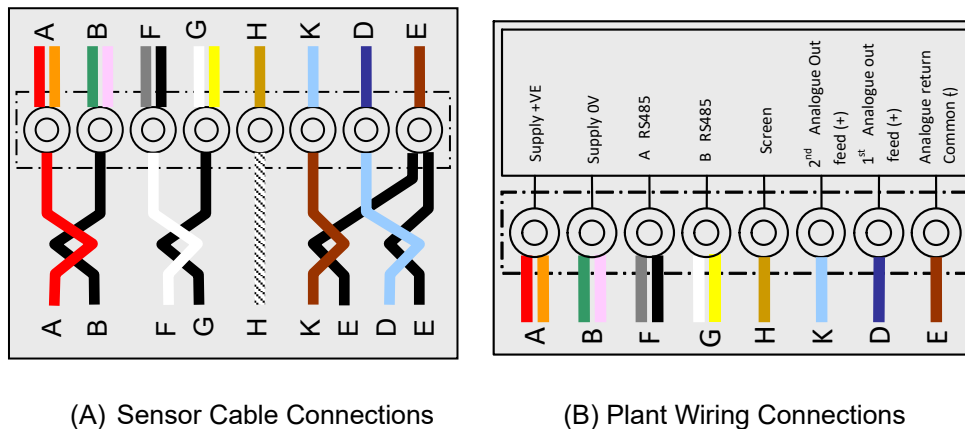

Figure 10: Wiring Diagram
- Connect to the terminals as per the diagram in the Rotating Connector (see Figure 10).
- Feed the installation cabling through the housing cable gland and cut to length. Wire the installation cable to the fixed terminal block as per the diagram in the lid (see Figure 10). Connect the removable terminal block plug from the slip ring sub-assembly.
- Feed the plant cabling through the housing cable gland and cut to length. Wire the plant cable to the fixed terminal block as per the diagram in the lid (see Figure 10).